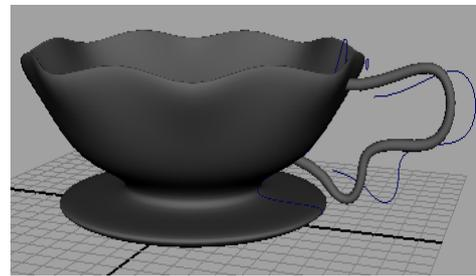

Figure 3-92 Final output of the cup
7. Choose **Move Tool** and **Rotate Tool** to adjust the handle with the tea cup to get the final output, as shown in Figure 3-92.